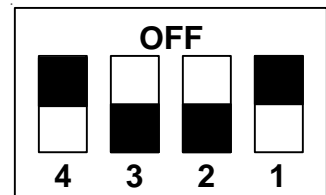

**Figure 4**
11. Move Dip switch No. 4 to OFF (see Fig. 4)